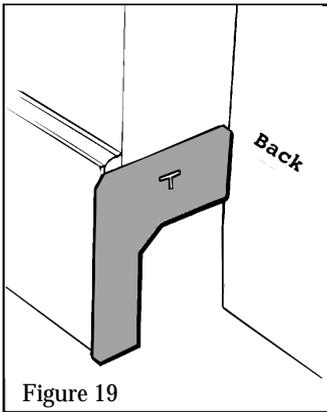

Figure 19
8.1 The fireplace surround will have to be cut away at the side where the duct connects to the appliance. A template is supplied to aid accurate cutting. It will be simpler if the side is cut before assembling the top to the sides. Place the template against the surround side as shown in figure 19. Mark the shape of the opening on the surround. Cut the opening .